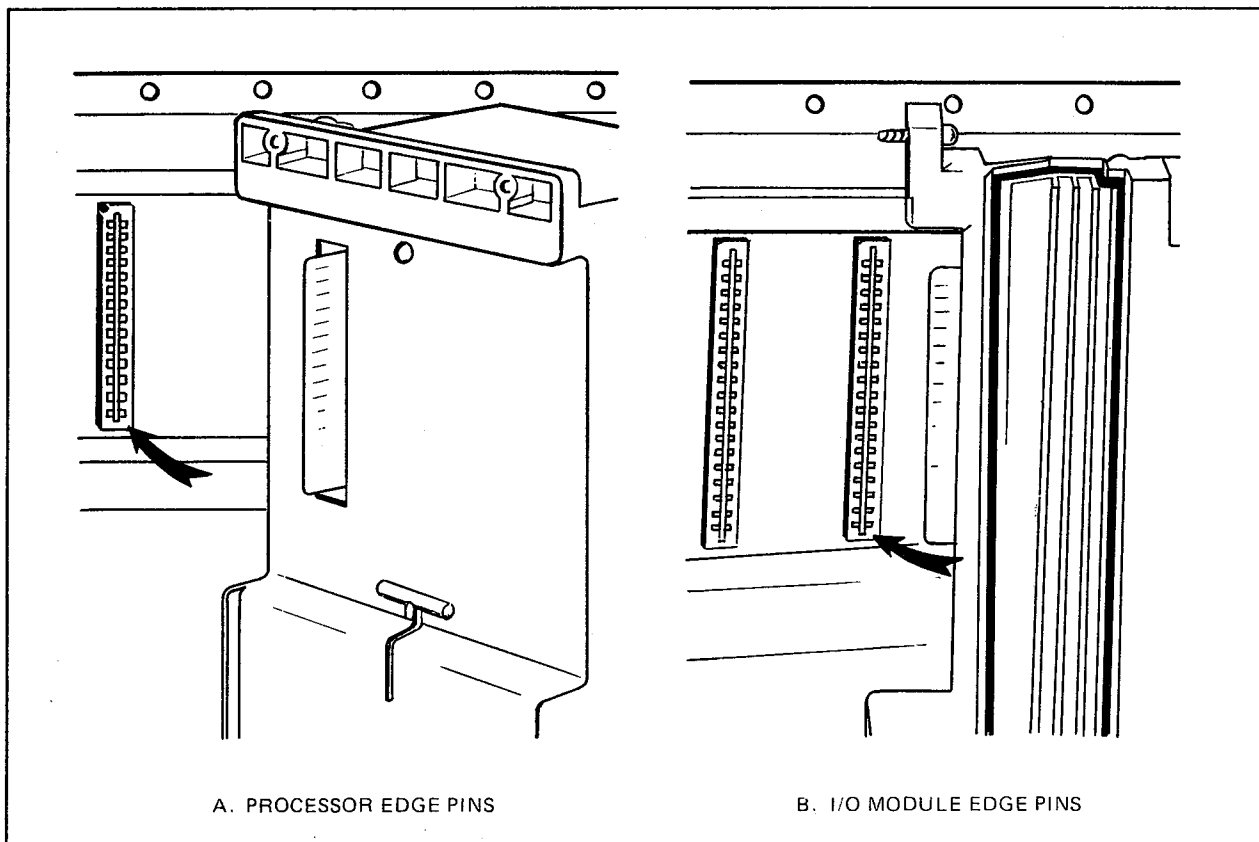

Figure 3-20. Controller and Module Insertion
1. Align the controller's edge pins with the rack's backplane edge connector, as shown in Figure 3-20.
1. Align the module's edge pins with the rack's backplane edge connector, as shown in Figure 3-20. (Refer to system drawings to determine in which position in the rack the module is to be placed.)